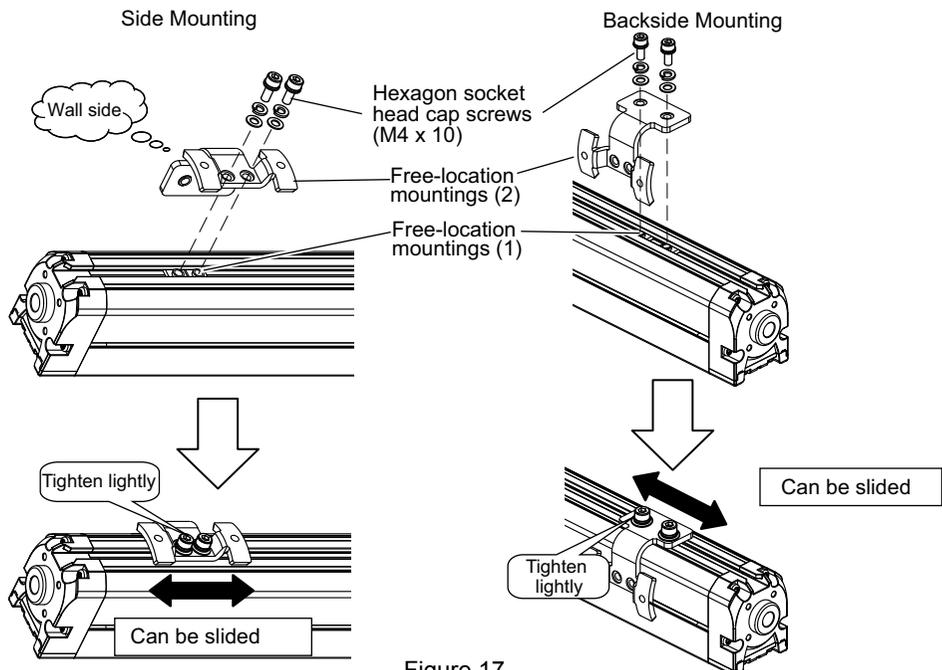

Figure 17
2. Align the screw holes of free-location mountings (1) inserted into the T-slot with the free-location mounting (2), and fasten them lightly using two attached hexagon socket head cap screws (M4 x 10). (Figure 17)